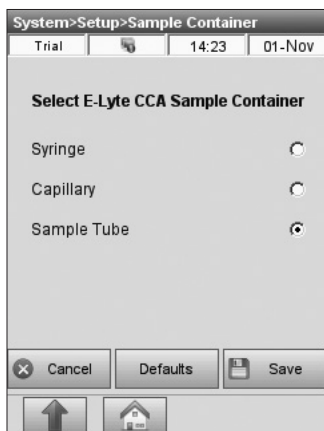

Fig. 3-46 Select Sample Container
3. Select your sample container (Fig. 3-46).